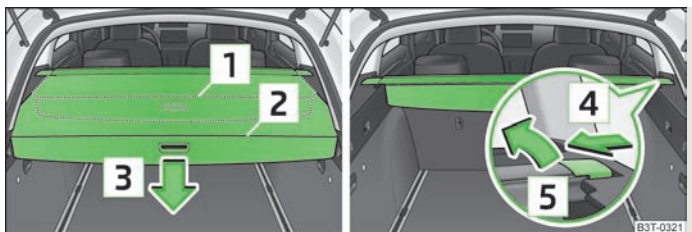

Fig. 70 Luggage compartment: foldable luggage compartment cover/removing foldable luggage compartment cover
- Pull the foldable luggage compartment cover as far as the stop into the secured position » Fig. 70.
- Press the cover in the handle area in the direction of the arrow » Fig. 70, and the cover automatically rolls up into position . The cover is fully rolled up by pressing once again.
- The fully folded luggage compartment cover can be removed to transport bulky goods by pressing on the side of the cross rod in the direction of the arrow » Fig. 70 and taking it out by moving it in the direction of the arrow .
- Open the boot lid. The foldable luggage compartment cover rolls up automatically in the position to » Fig. 70.